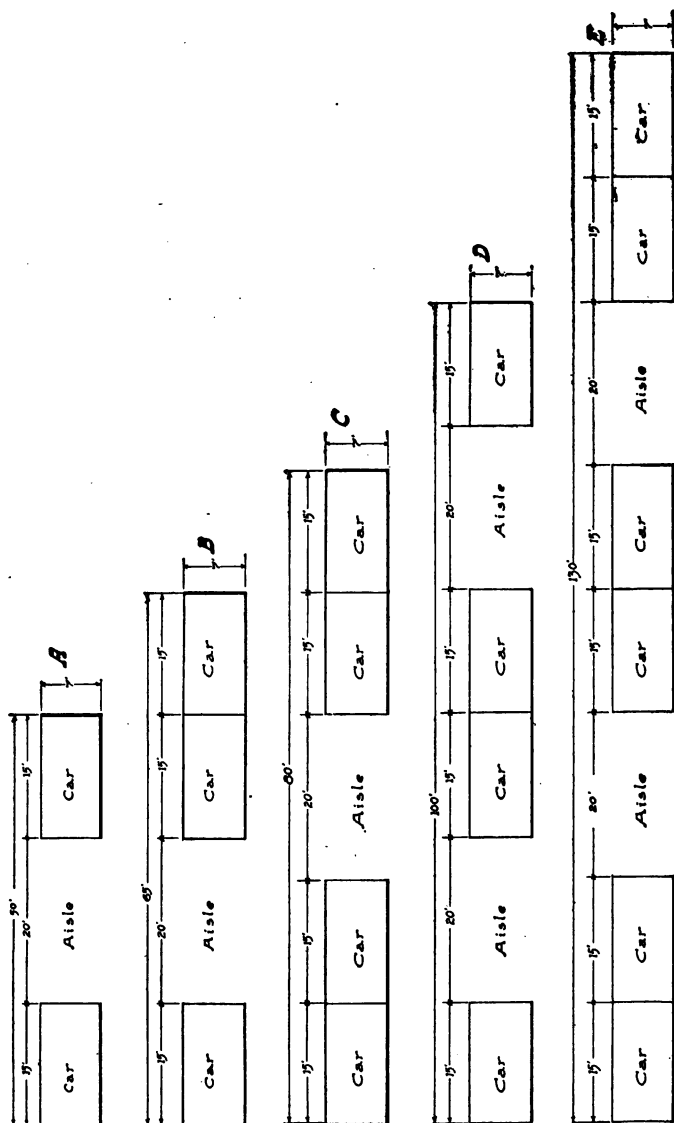

Fig. 1. Various Possible Arrangements for Garage Interiors
To make these more clear, Fig. 1, in which these five cases are shown, respectively, at *A*, *B*, *C*, *D*, and *E*, is presented. The depth needed per car is 7 feet; so the width having been determined, and one of the above five methods having been fixed upon as the best for the purpose, the total depth is found by dividing the number of cars to be housed by the number accommodated in one 7-foot width, and then multiplying this result by 7. Thus, suppose a narrow garage has been fixed upon, under scheme *B*, Fig. 1, which accommodates three cars in one width, or 7 feet. And suppose the total number of cars to be provided for is 90; then 3 goes into 90 30 times, and 30 times 7 gives 210 feet for the total depth. As this is deeper than lots usually run, it would be best to change to scheme *C*, which accommodates 4 cars per strip of width, thus 4 goes into 90 22 plus, and 22 times 7 equals 154 feet for the depth. Under certain conditions, a strip might be available straight through the block, so that instead of changing to scheme *C* we could go the other way, changing to *A* and making the garage narrower and longer.
**Modifications of Size Due to Situation.** If the garage is situated in a small town or in the country, it is possible to slightly trim the dimensions given. Thus, a Ford car needs but 12 feet; being uniformly narrower and turning shorter than other cars, it can be handled in a narrower aisle. This would mean that a garage entirely for Fords could have, under scheme *A*, Fig. 1, a width as little as  $12 + 15 + 12$ , or 39 or, in round figures, 40 feet. This is an unusual supposition,
allow the arrangement B, shown in Fig. 1. With this arrangement the building has room for 100 cars. There is provision for a small store, a stock room, office, toilets for men and women, wash rack, also fuel and oil pumps. The latter are placed at the street front, just inside the door. The building, although as long as the average block is deep, does not run through to another street, so there is no back entrance. This plan makes it possible for some cars to be placed at the back end of the aisle against the rear wall and as far forward as seems advisable, as indicated by the dotted lines. Despite the number of windows on all four sides, it is advisable to have several skylights in a building of this size and shape. In an old building altered for